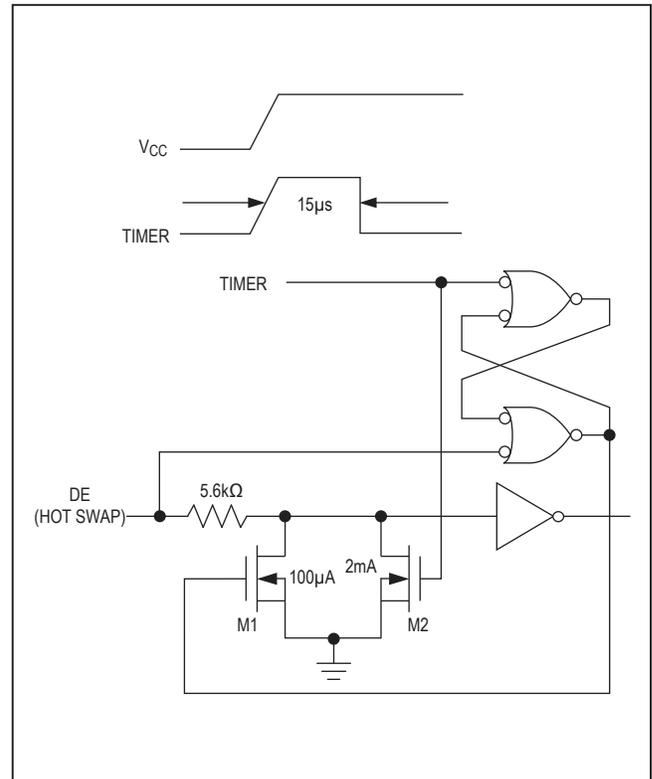

Figure 10. Simplified Structure of the Driver Enable Pin (DE)
At the driver-enable input (DE), there are two NMOS devices, M1 and M2 (Figure 10). When V_{CC} ramps from zero, an internal 15 μ s timer turns on M2 and sets the SR latch, which also turns on M1. Transistors M2, a 2mA current sink, and M1, a 100 μ A current sink, pull DE to GND through a 5.6k Ω resistor. M2 pulls DE to the disabled state against an external parasitic capacitance up to 100pF that may drive DE high. After 15 μ s, the timer deactivates M2 while M1 remains on, holding DE low against three-state leakage currents that may drive DE high. M1 remains on until an external current source overcomes the required input current. At this time, the SR latch resets M1 and turns off. When M1 turns off, DE reverts to a standard, high-impedance CMOS input. Whenever V_{CC} drops below 1V, the input is reset.